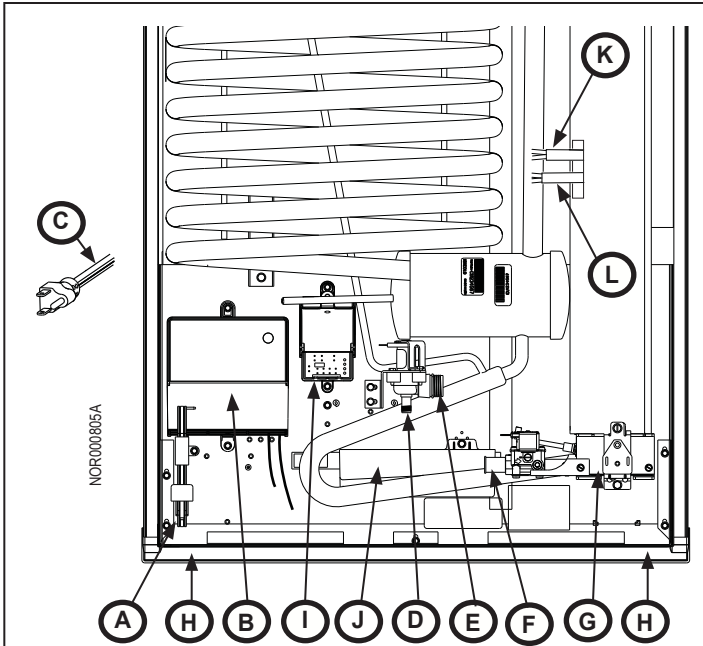

Fig. 1 - Refrigerator View Through Air Intake
| Fig. 1 - Refrigerator View Through Air Intake .....    | 4  |
3. Unplug 120 VAC power cord (Fig. 1, A) from RV receptacle.
4. If ice maker equipped, unplug white 120 VAC ice maker power cord (Fig. 1, C) from RV receptacle.
2. Using two (2) wrenches, disconnect the RV propane supply line (Fig. 1, F) from the gas train assembly (Fig. 1, G).
3. Disconnect the RV water supply (Fig. 1, E) from the refrigerator water valve (Fig. 1, D).
1. Remove screws (2x) (Fig. 1, H), from the mounting flanges at the rear of the refrigerator. Set aside.